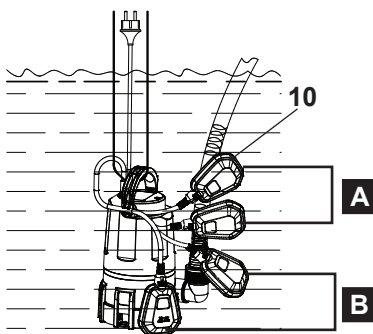
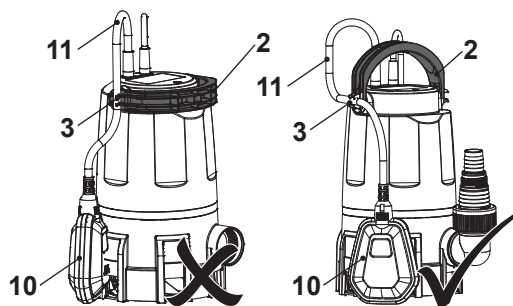

Fig. 5
Fig. 6
NOTE: The float switch (10) contains a ball that activates a switch. The product works only if the float switch is above position A, position B corresponds to the switch off level for the pump (Fig. 5).
The product is started at a certain water level by the float switch (10) (switch on level) (Fig. 5, A). The product continues pumping until the water level is lowered to a particular height and then the float switch turns the product off (switch off level) (Fig. 5, B).
1. Adjust the height of the relative switch on and off levels within certain parameters by lengthening or shortening the free cable length of the float switch cable (11).
2. Lift the carry handle (2) firstly, then fix the float switch cable (11) to either of the cable clip (3) afterwards (Fig. 6).